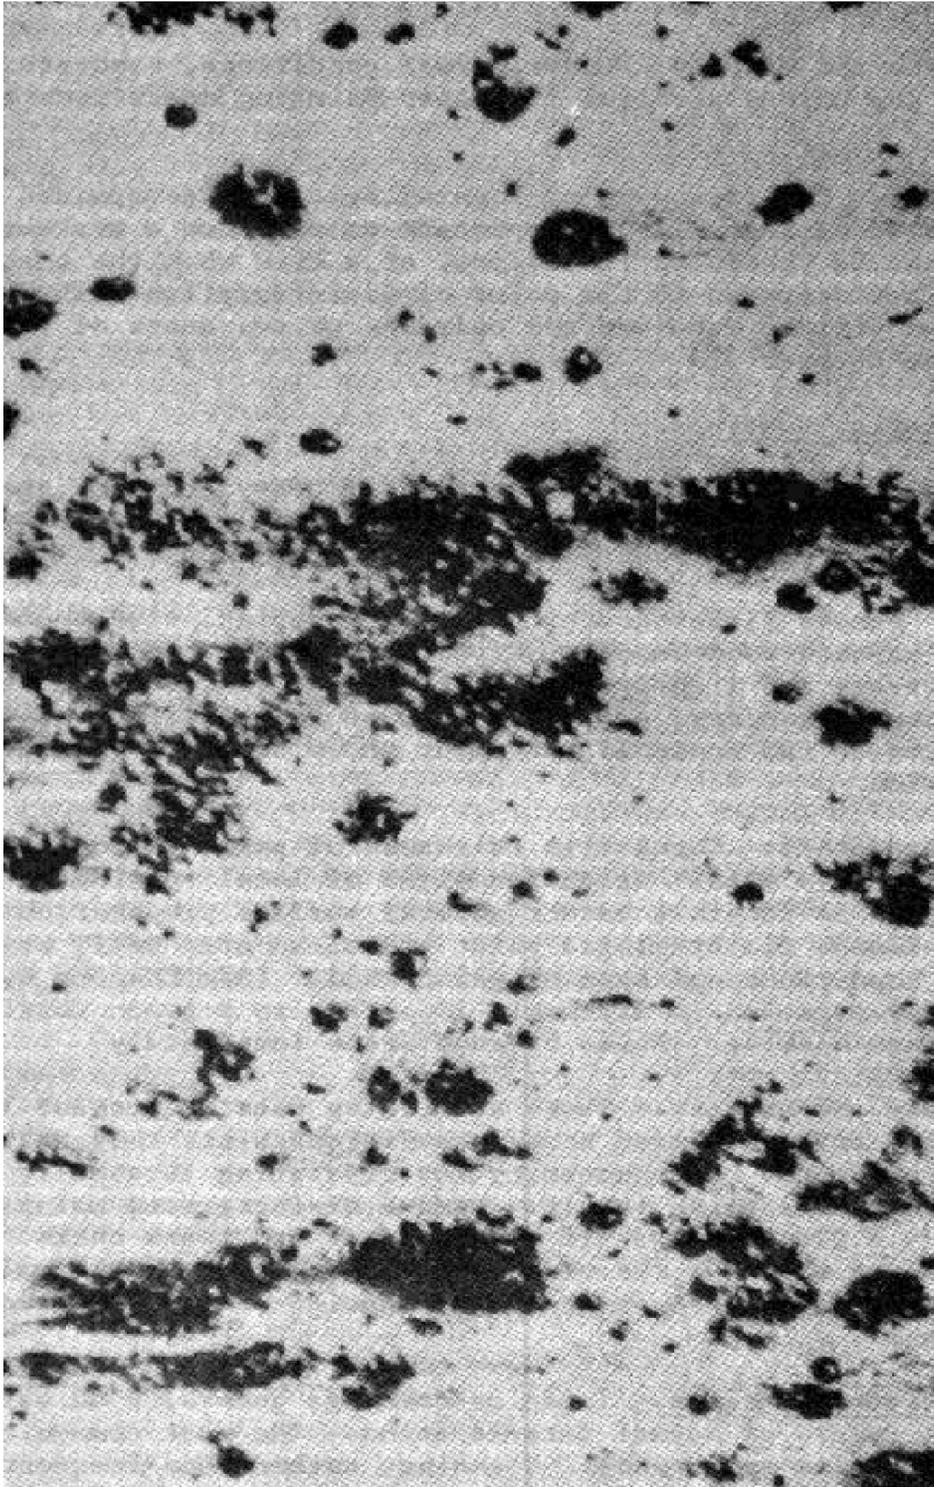

FIGURE 5-12
b. Metal: Iron and steel tend to corrode in normal atmospheres and especially in coastal areas. Thus, any breaks in the film will allow rusting or corrosion to spread rapidly with consequent loss of adhesion of the surrounding coating. (See Figure 5-12.) Aluminum, copper, and stainless steel are also subject to corrosion, especially in salt-laden atmospheres.